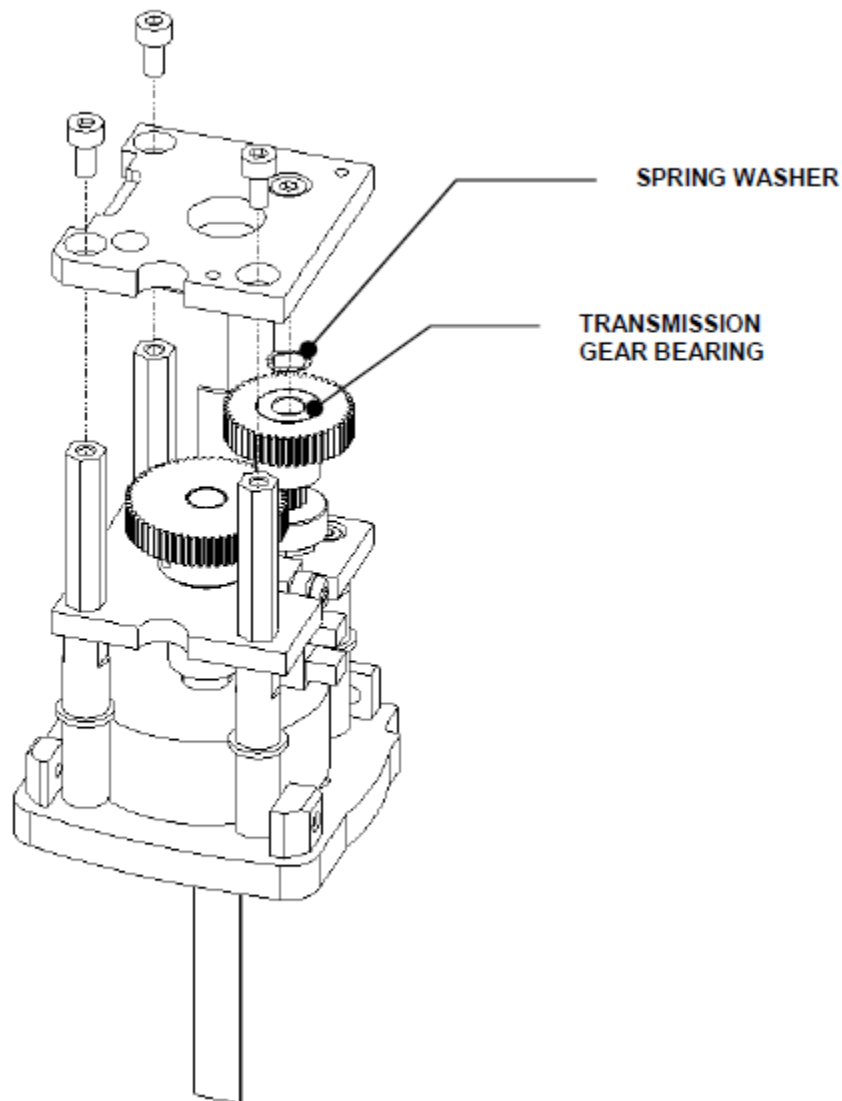

Figure R-9: Transmission Gear Assembly
The Transmission Gear Assembly sits directly below the motor assembly and is depicted in Figure R-9.
4. Place a Spring Washer over the top bearing of the Transmission Gear Assembly. Slide the Bearing Idler through the Spring Washer and into the Transmission Gear bearing and secure the Gearbox Flange to the three Standoffs using three M3x6 Socket Cap Head Screws and Loctite 222 (See Figure R-9).